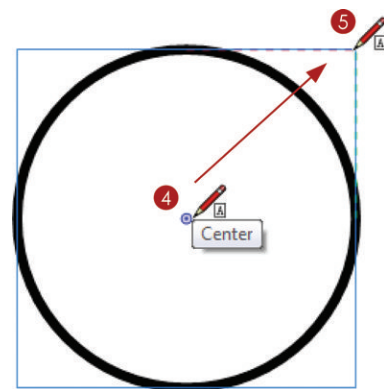

Figure 13.12 Add text to the door tag.
4. Activate the Text tool. While you hold down the Ctrl key (Option on Mac), click and hold on the center point of the circle (Figure 13.12).